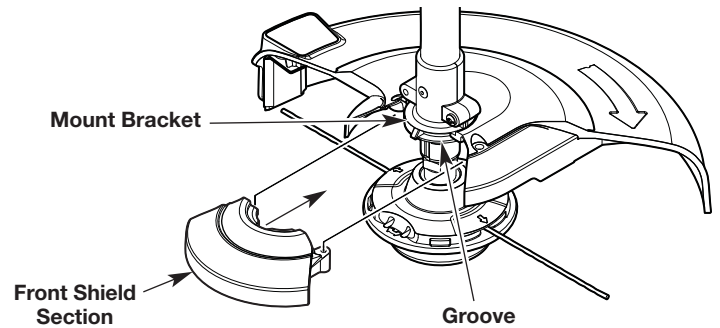

Fig. 2
2. Slide the front shield section onto the front of the mount bracket (Fig. 2). The shield section should slide into the groove (Fig. 2). This may require a firm push.